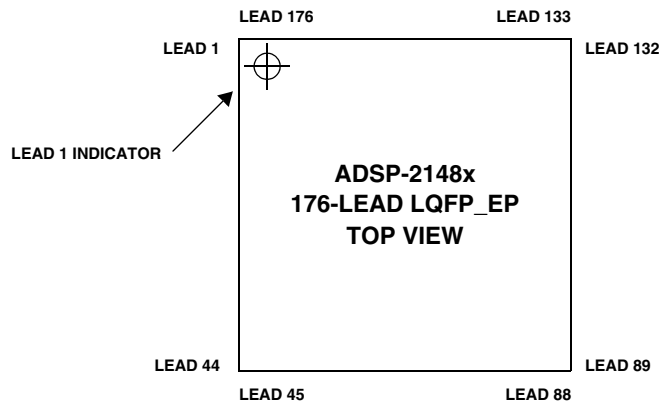

Figure 51. 176-Lead LQFP_EP Lead Configuration (Top View)
** Lead no. 177 (exposed pad) is the GND supply (see Figure 51 and Figure 52) for the processor; this pad must be **robustly** connected to GND.
Figure 51 shows the top view of the 176-lead LQFP_EP lead configuration. Figure 52 shows the bottom view of the 176-lead LQFP_EP lead configuration.